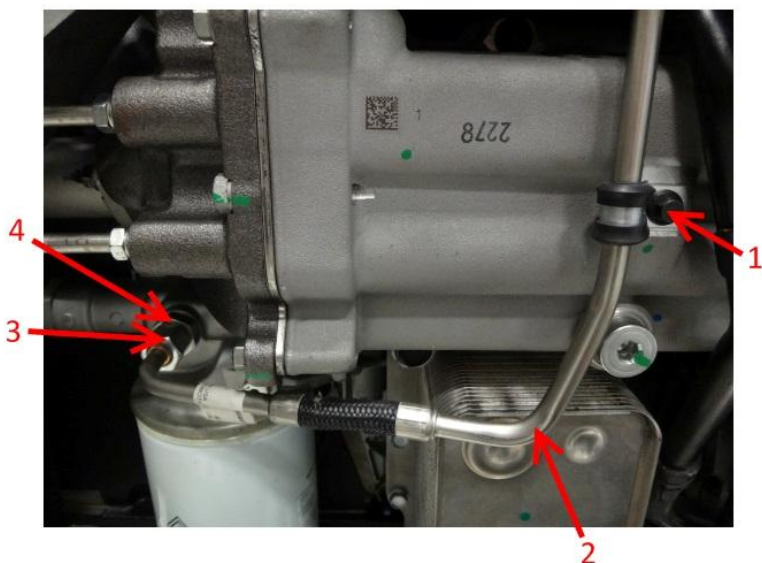

Figure 13: Oil Supply Tube at Oil Cooler Housing
31. Remove M6 X 12 bolt (**Figure 13**, Item 1) securing turbocharger oil supply tube retainer from EGR cooler.
32. Remove turbocharger oil supply tube nut (**Figure 13**, Item 3) from fitting and o-ring (**Figure 13**, Item 4) on the oil cooler housing and discard oil supply tube.
33. Remove o-ring from fitting (**Figure 13**, Item 4) and discard.